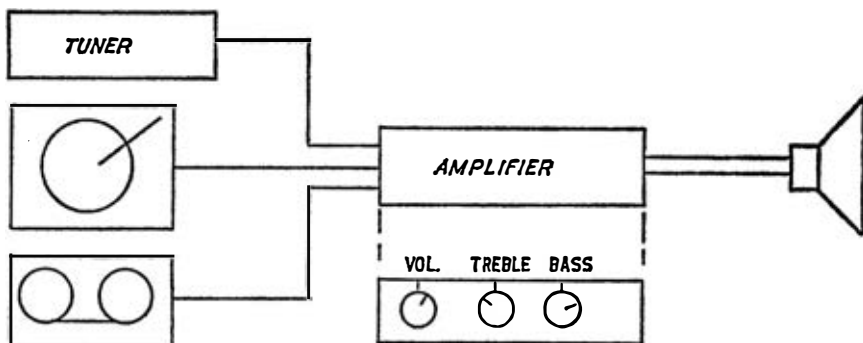

Fig. 11 MONOPHONIC SYSTEM COMPONENTS SHOWN IN DIAGRAMMATIC FORM
A COMPLETE system embraces basically, a *source* of programme signal, rendered at Audio Frequency (AF), the strength of which is then boosted by an *amplifier* to develop enough power to drive a *loudspeaker*. The source can be a radio frequency *tuner* (which besides picking up the radio frequency signal to which it is tuned converts this into an AF output), a *gramophone record player*, a reel-to-reel *tape deck*, a *cassette deck* or a *cartridge deck*—Fig. 11. In the latter cases, the player or